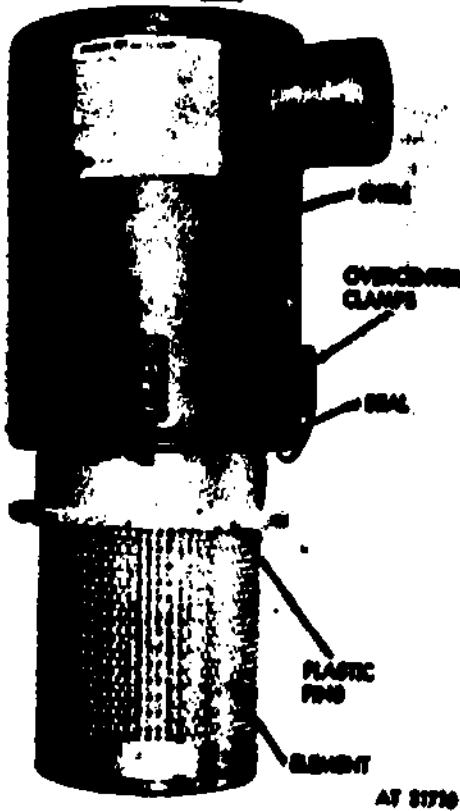
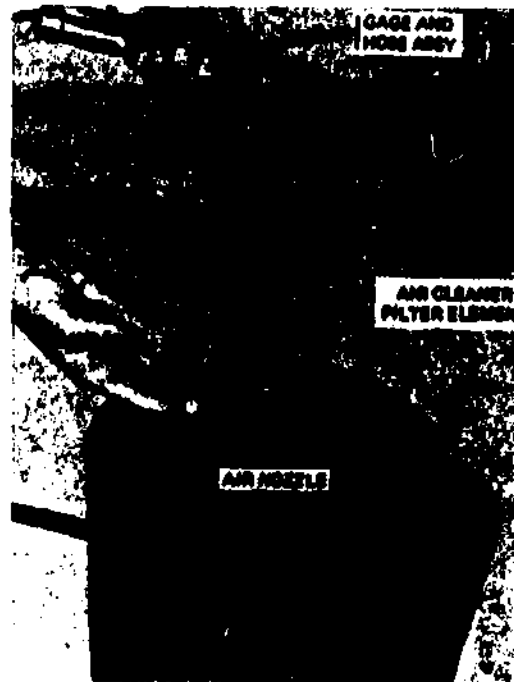

Fig 2-54. Dry type air filter.
Fig 2-55. Direct air pressure from the inside.
- (2) **Dry type.** An air filter with a dry element (fig 2-54) can also be cleaned. Remove the air cleaner from the vehicle, take the filter out of the shell, and wipe the inside of the shell clean. Check the seal to insure that it prevents air from entering without being filtered. Using air pressure (fig 2-55), do not exceed 100 psi and direct air from the inside out. If air pressure cannot be used, the filter may be washed in a nonsudsing detergent and water (temperature of the water should not be hotter than 120°). Rinse the filter in clear water and allow to dry. Do not replace the filter until it has dried off. Do not use gasoline or solvents to clean the dry type air filter.